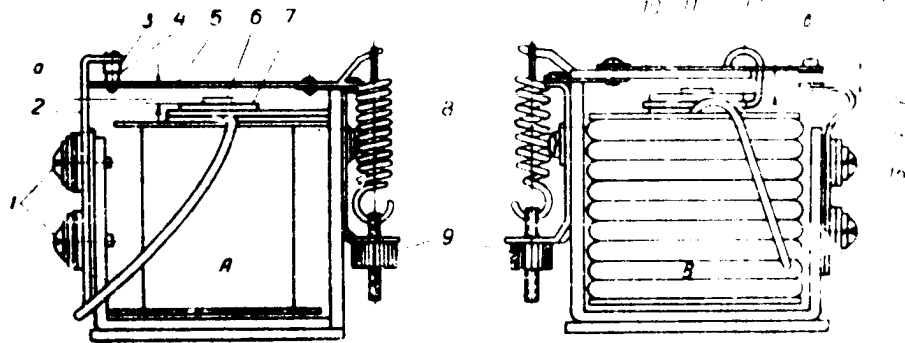

Fig. 39. Checking PP20 Current and Voltage Regulator Clearances
Check the armature to core clearances on the voltage regulator and current limiting regulator (Fig. 39). The clearance should be 1.4 to
1.5 mm with closed contacts. Check the clearance as shown in Fig. 39. To adjust the clearance loosen the screws and move the contact bracket. Subsequent to cleaning the contacts and adjusting the clearance check functioning of the voltage regulator. To increase generator voltage increase armature spring tension by tightening the adjusting nut.